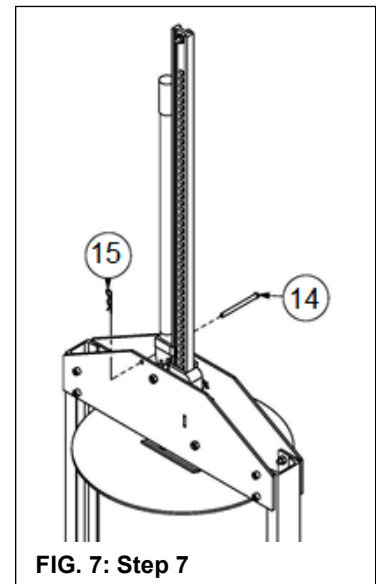

FIG. 7: Step 7
Step 7: Put the handle in an upright position. Insert the clevis pin (14) into the top holes of the jack plates when unit is not in use. Lock the pin in place with the hitch clip (15). See FIG. 7. The handle should also be secured whenever the compactor is not in use.
Step A: Free the jack handle by removing the storage pin (14). See FIG. 7 on p. 5. Turn the jack direction levers to UP position and fully raise the compactor plate. Refer to FIG. 9
Step H: Put the jack handle in the storage position and secure it with the clevis pin (11) and hitch pin (12). See FIG. 7 on p. 5.